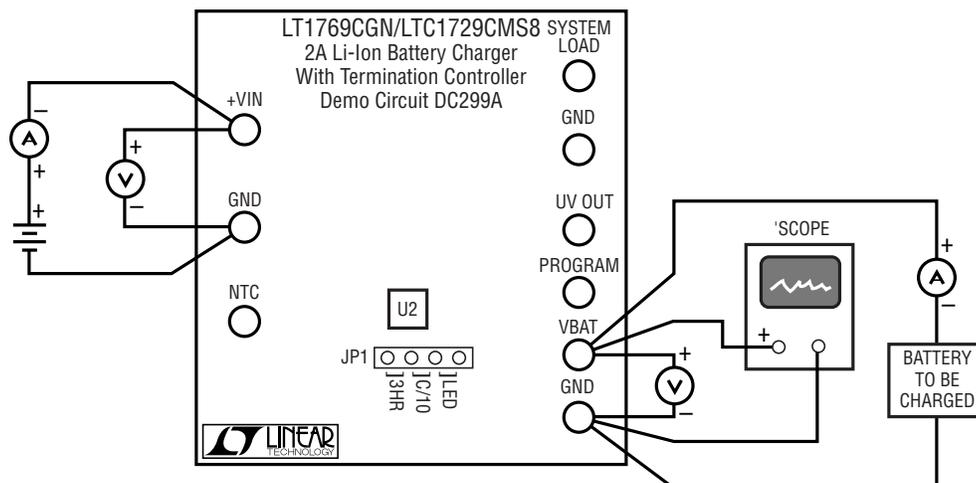

Figure 1. DC299 Connection Diagram
1. The demo board comes in four versions, each with a different output voltage. It is very important to determine the correct version for your battery. To verify the output voltage of the board, compare the marking on the top of U2 (refer to Figure 1) with Table 1.
2. Before turning on power, connect the input power supply, battery, oscilloscope and meters as shown in Figure 1. For best accuracy, it is important to connect voltmeters directly to the PCB terminals when measuring input and output voltages.